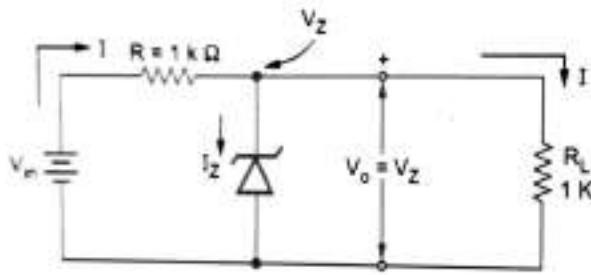

Fig. Q.39.1
**Ans.** : The circuit is shown in the Fig. Q.39.1.